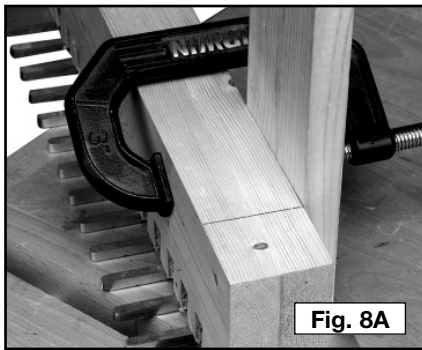

Fig. 8A
Step 1 - Clamp the pin board with the outside surface facing away from the clamping board (Fig. 8A). Align the edge of the pin board with the line drawn in **STEP 3** of “**CUTTING THE TAILS**”.